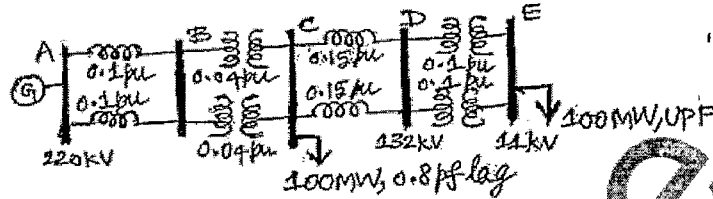

Fig. Q7 (b)
- b. Consider a transmission system shown in Fig. Q7 (b) below. The pu reactance values are referred to the respective voltage bases and 100 MVA base. Determine the power supplied by the generator and its power factor.